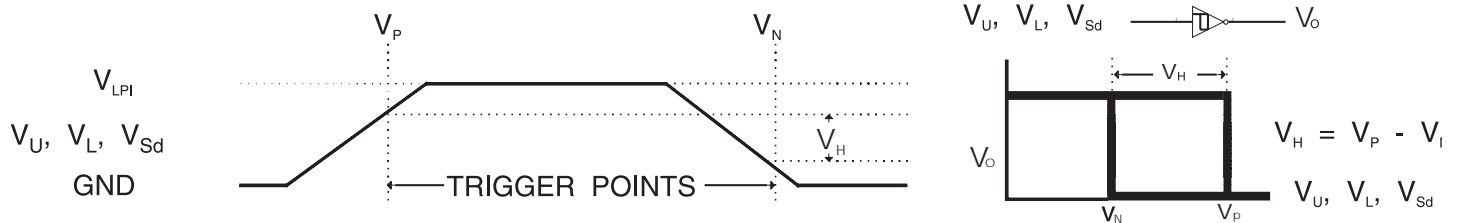
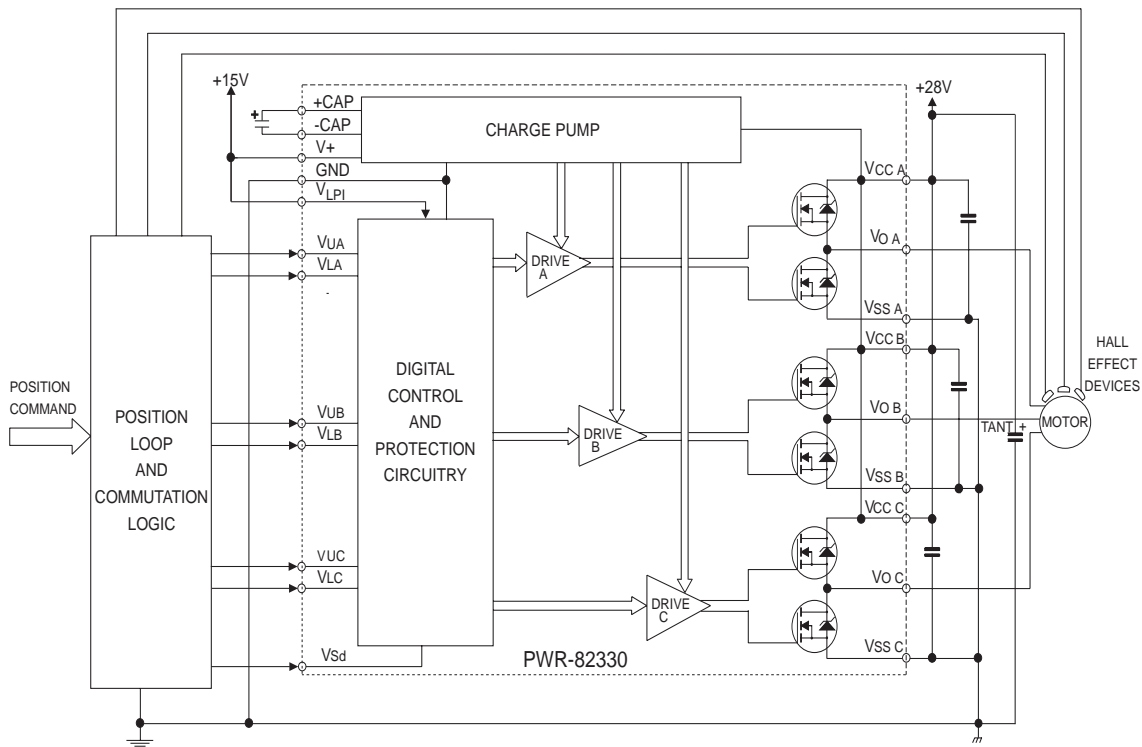

FIGURE 3. HYSTERESIS DEFINITION AND CHARACTERISTICS
FIGURE 4. TYPICAL INTERFACE WITH A MOTOR AND COMMUTATION LOGIC
The PWR-82330 uses the Schmitt triggered digital inputs (with hysteresis) to ensure high noise immunity. The trigger switches at different points for positive and negative going signals. Hysteresis voltage (V_H) is the difference between the positive going voltage (V_P) and the negative going voltage (V_N) (see FIGURE 3). The digital inputs have programmable logic levels, which allows the hybrid to be used with different types of commutation logic with an input voltage range of 5-15 V, such as TTL or CMOS logic. Pin 6 is the logic power input (V_{LPI}) for the digital circuitry inside the hybrid. **A 0.01 μF , 50 V ceramic capacitor must be placed between this pin (6) and GND as close to the hybrid as possible.** When using 15 V control circuitry, an external +15 Vdc power supply must be connected between pin 6 of the hybrid, and GND. The commutation / control circuitry can be as simple as discrete logic with PWM, or as sophisticated as a microprocessor or custom ASIC, depending on the system requirements. FIGURE 4 illustrates a typical interface of the PWR-82330 with a motor and commutation logic in a Servo-Amp System. (Refer to AN/H-3 application note for more details.)